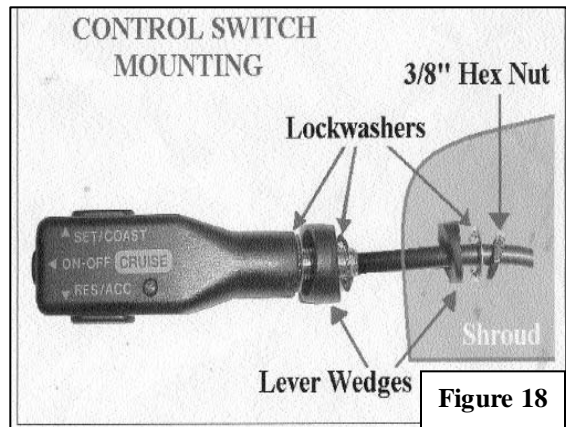

Figure 18
- ➔ 1. Use the **Lever Wedges** on the **Control Switch** as an angle template to drill a 3/8" or 9.5mm hole in the lower shroud of the steering column cover. Assemble **Control Switch** to the lower shroud of the steering column cover according to **Figure 18**.